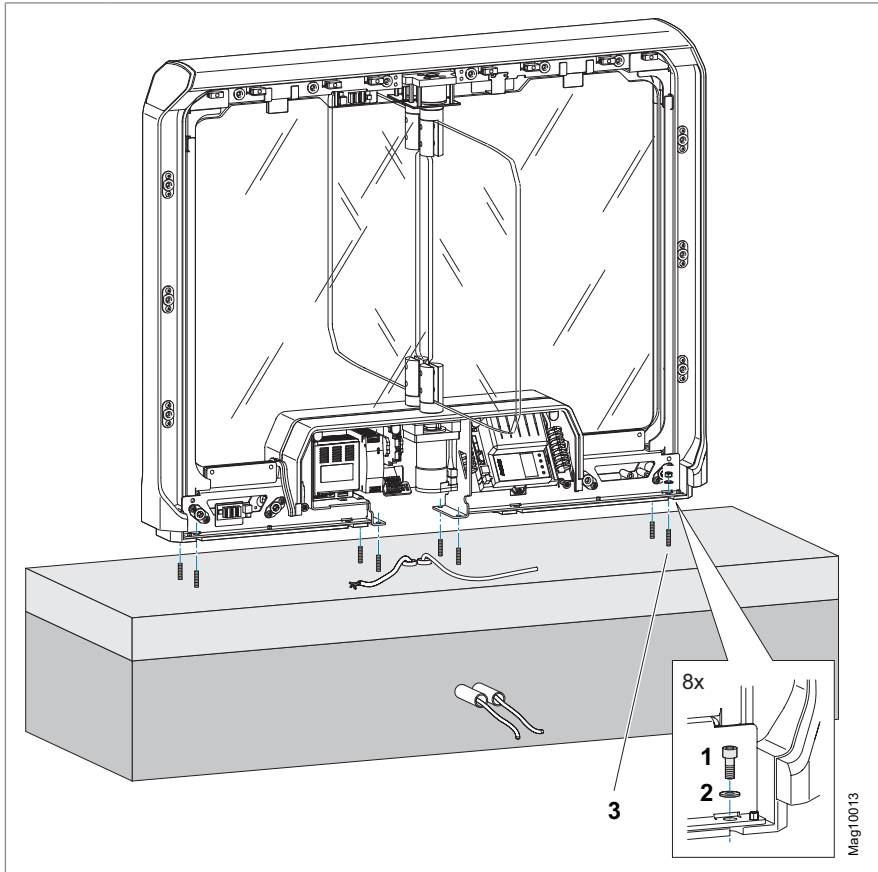

Fig. 19: Mounting version "base plate mounting" – Mounting the pedestrian gate
3. Place the pedestrian gate on the threaded rods. ↗ Page 48, Fig. 19.